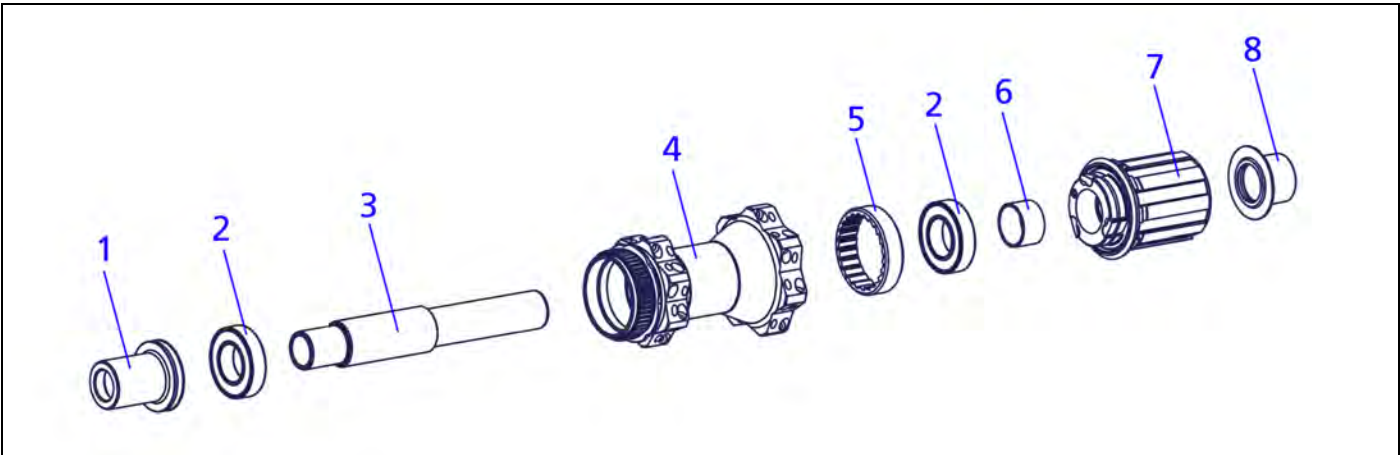

figure 3.4: Overview Three Pawl System
1. Clamp the right adapter (fig.3.4/8) into a vice.
3. Clamp the left adapter (fig.3.4/1) into a vice.
5. Pull the rotor (fig.3.4/7) off the hub.
6. Pull the spacer (fig.3.4/6) off the axle.
2. Slide the spacer (fig.3.4/6) onto the axle.
3. Slide the rotor (fig.3.4/7) onto the hub while performing a rotary motion.
5. Grease the bearings and the inner surface of both adapters (fig.3.4/1, 8).
6. Put on both adapters (fig.3.4/1, 8) and push them in by hand.